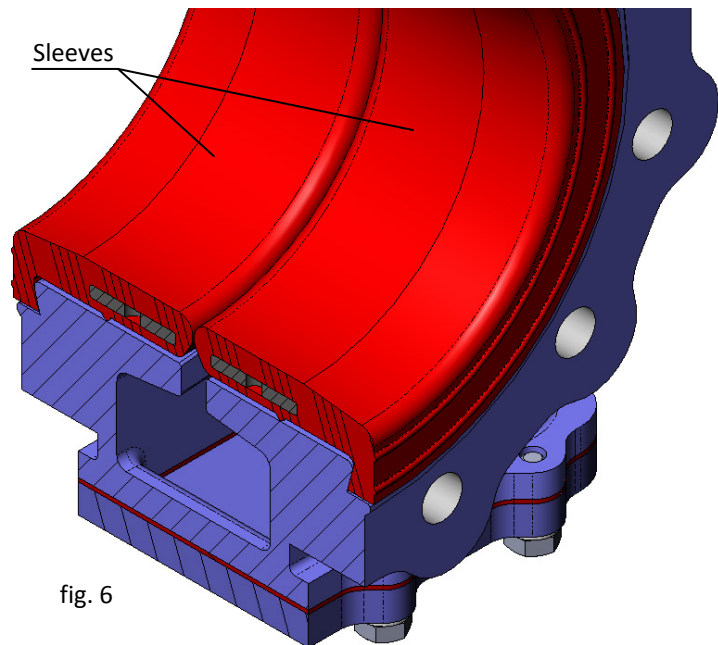

fig. 6
3. Place the gate (2) in open position.
4. The sleeves (7) are replaced from outside the valve's body, it is a seat with two symmetrical parts, below we show a diagram of the seat (fig.6).
6. Once they have been lubricated with Vaseline, insert the new sleeves (7) of the same dimensions as those old ones.